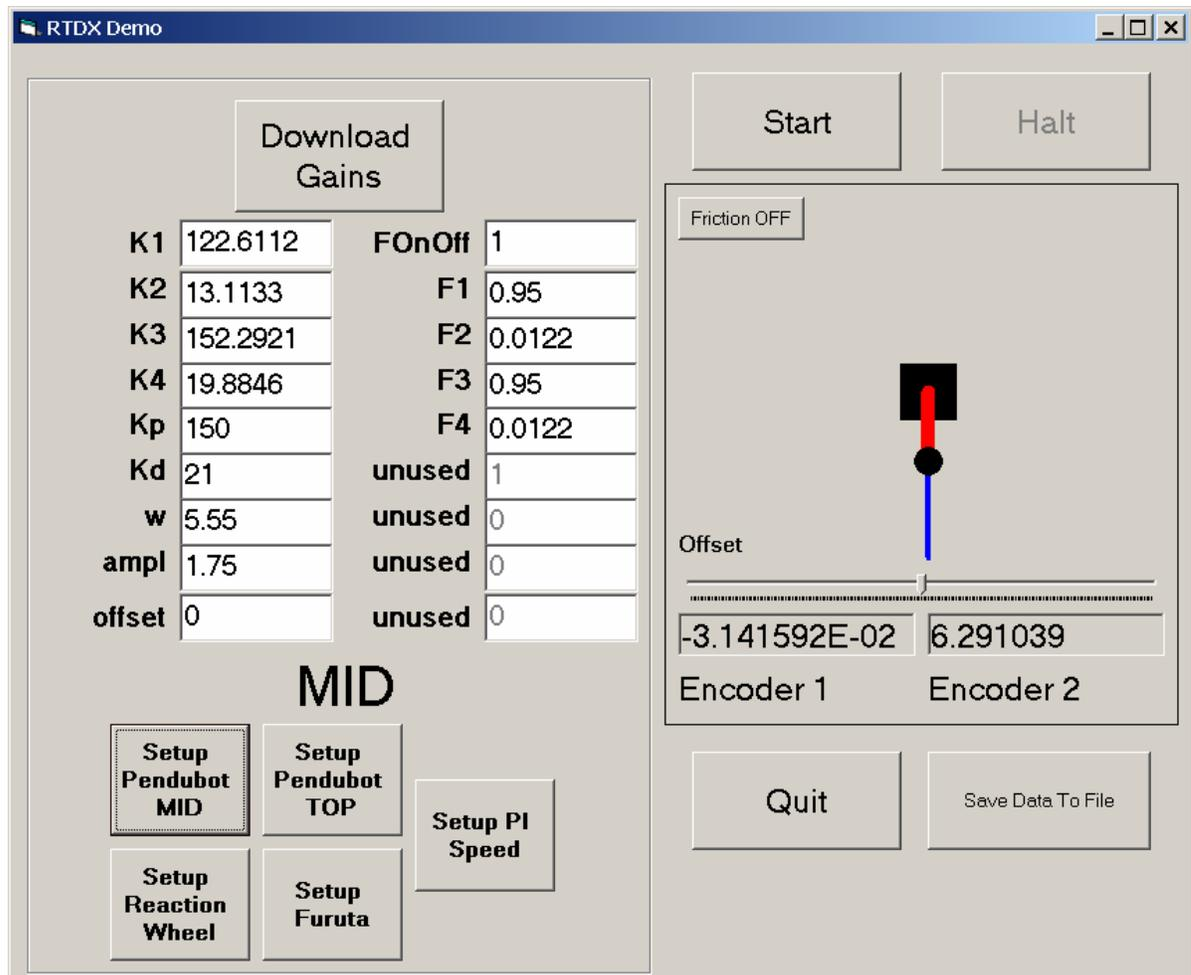

Figure 4-2 Visual Basic GUI
9. Launch the VB application “rtdxproj.exe” found in “dspbiosII\rtdxproj\vb”. The GUI interface similar to Figure 4-2 should appear.